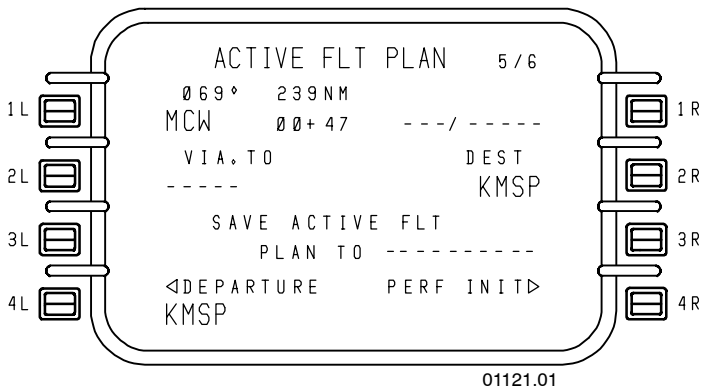

Figure 4-20
The flight plan is closed by moving KMSP to the VIA.TO line by pressing the line select key (2R) adjacent to KMSP. This action moves KMSP to the scratchpad. This is shown in Figure 4-20.